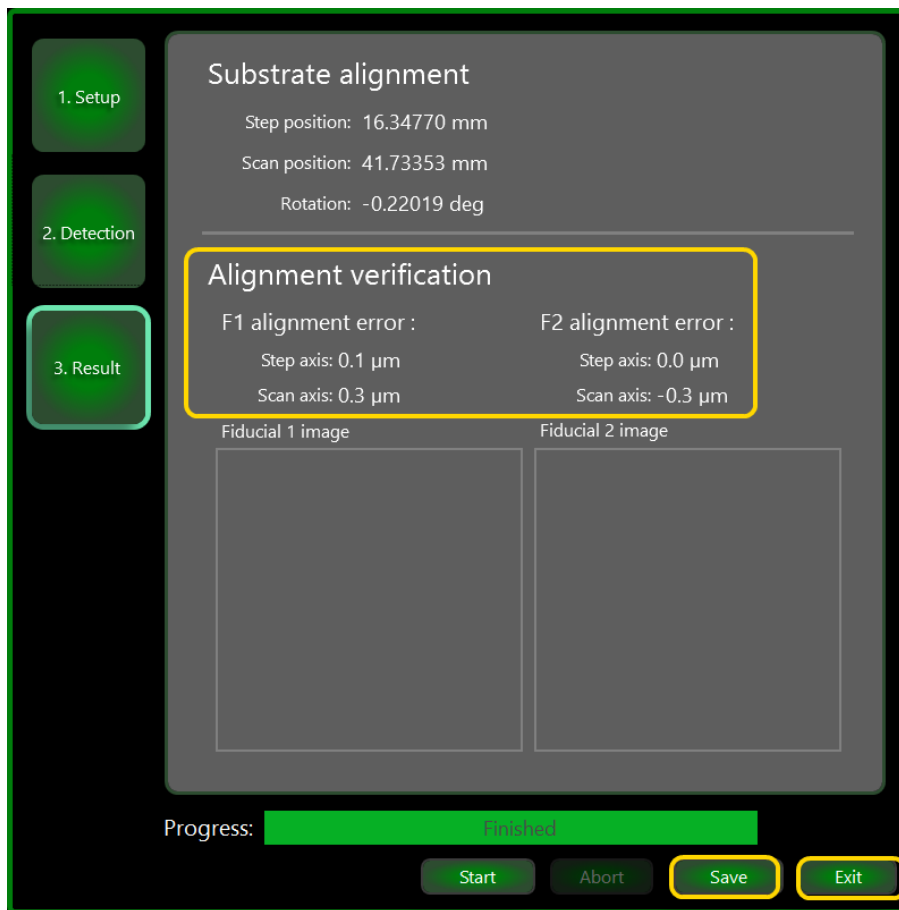

Figure 3-97 Alignment wizard finished
- 3.2. Wait until the wizard is done and the results are visible, see Figure 3-97.